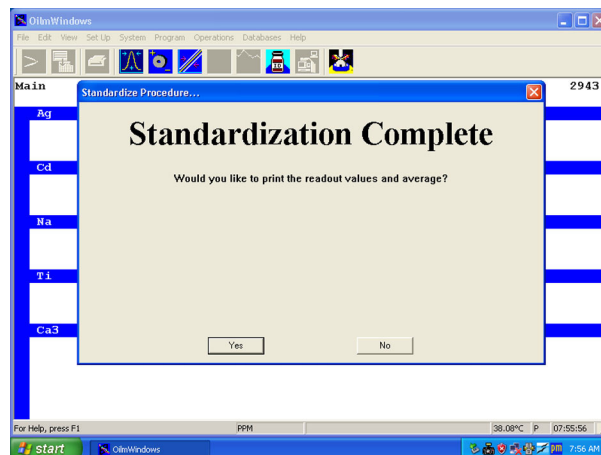

Figure 2-7, Standardization Complete, Dialog
15. After making as many measurements as necessary to obtain a good average, press function key 6 (F6), click the average icon, or select Operations/Average from the pull down menu. The average of each element will be calculated and displayed below each element's column of measurements. If there are no additional standards to be measured as part of the standardization routine, next dialog to appear will indicate standardization is complete and inquire if the average and burns for the last standard measured should be printed. Refer to Figure 2-7 below.